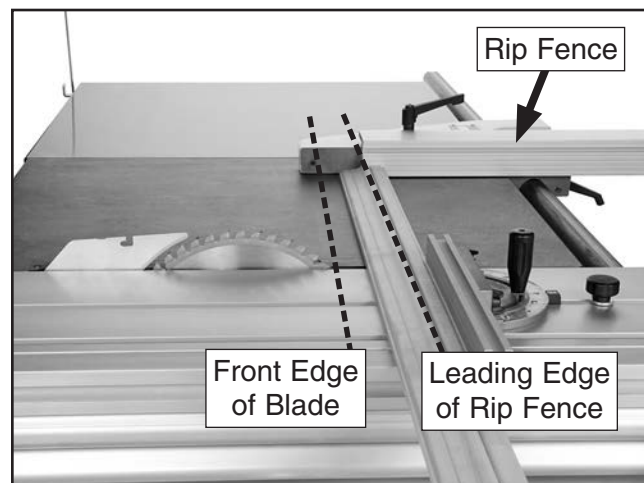

Figure 119. Example photo of correct rip fence position when using it as a cut-off gauge (blade guard removed for clarity).
4. Slide leading end of rip fence behind front edge of blade (see **Figure 119** for an example).
5. Load workpiece onto table saw and against rip fence. The setup should look similar to **Figure 119**.